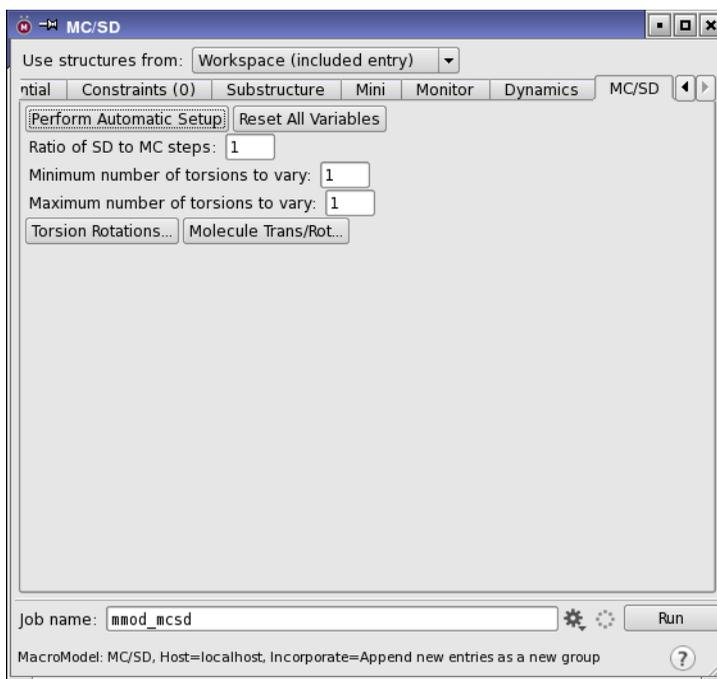

Figure 5.2. The MC/SD panel showing the MC/SD tab.
11. In the MC/SD tab, click Perform Automatic Setup (see Figure 5.2).